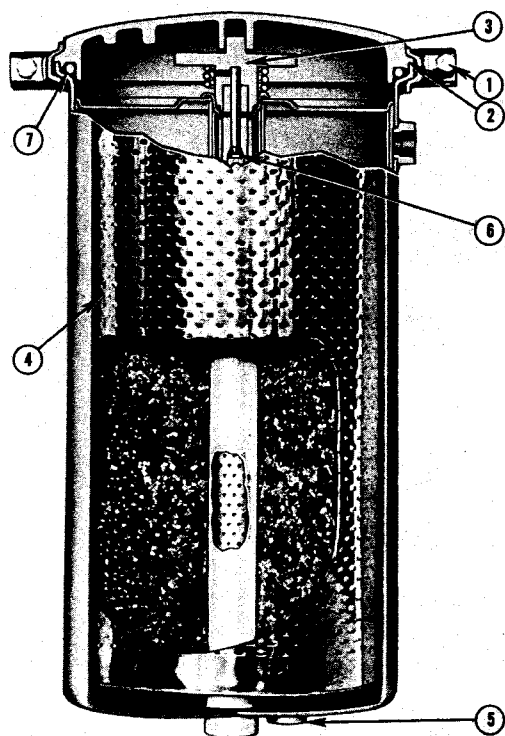

Fig. 2-17, (V41908). By-pass filter cross section
1. Remove drain plug (5, Fig. 2-17) and drain oil.
2. Remove clamping ring capscrew (1) and lift off cover.